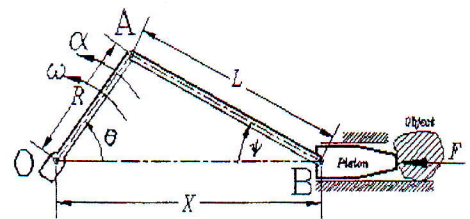

Fig.5
B) Fig.5 shows a simple slider crank mechanism OAB has a piston block which can push an object against a resistant force (F).
- 2) At $\theta = 53.13^\circ, R = 30$ cm, $L = 40$ cm, constant $\omega = 1$ r/s and $F = 500$ N, find analytically the values (X, \dot{X}, \ddot{X}) "and check these values graphically". Try to find torque (T) which must applied to OA if mass $m_2 = 10$ Kg of OA concentrated at mid of OA and mass $m_p = 50$ Kg of piston block concentrated at B, assume link AB is massless $m_{AB} = 0$, friction coefficient $\mu = 0.1$ of piston and ground